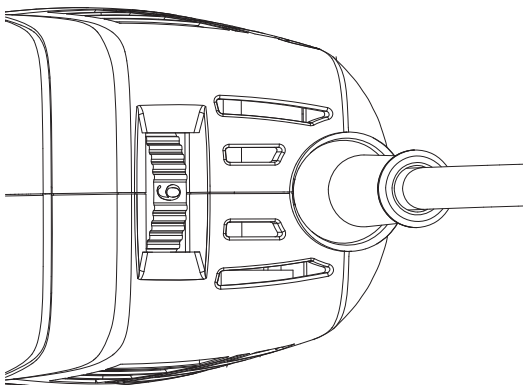

Figure 8
6. VARIABLE SPEED SWITCH (SEE FIG. 8)